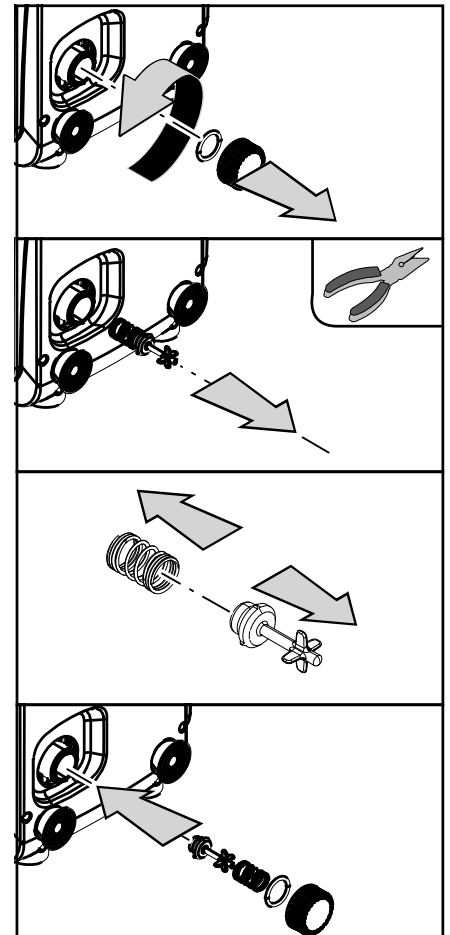

Figure 19
3. remove the drainage cap on Face E, taking care not to drop the O-Ring (Fig.19);